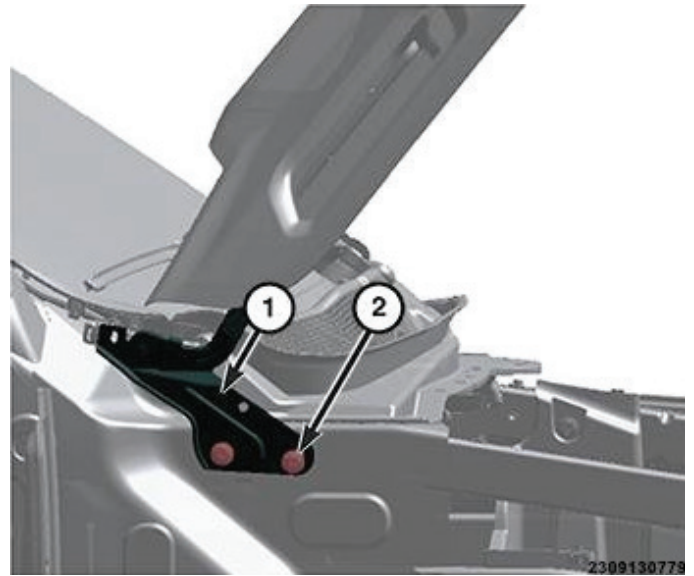

Figure 9
18. Using a 13mm socket wrench, remove the two (2) lower hood hinge bolts. (Figure 9, #2)